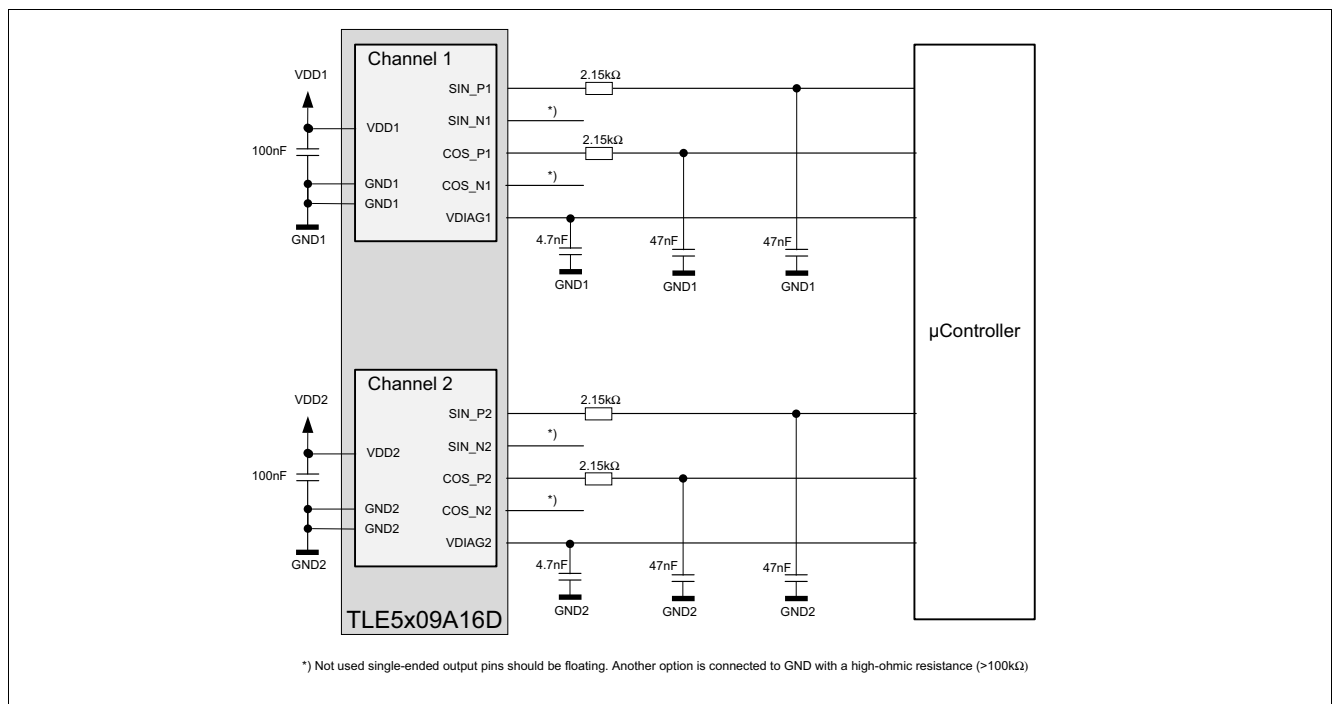
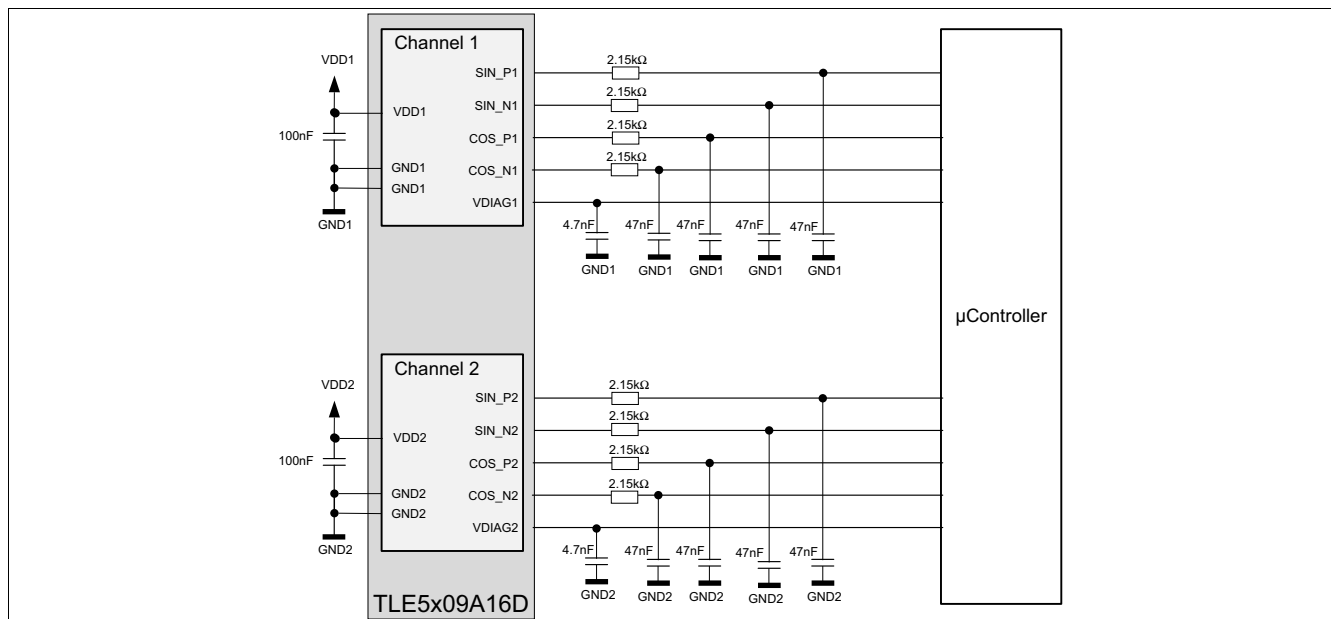

Figure 11 Application circuit for the TLE5x09A16(D) in single-ended output mode; positive output channels used
Figure 12 Application circuit for the TLE5x09A16(D) in differential output mode
The TLE5x09A16(D) sensor can be used in single-ended or differential output mode. **Figure 11** shows a typical application circuit for the TLE5x09A16(D) in single-ended output mode using the positive output channels. For single-ended operation the positive or negative output channels can be used. Unused single-ended output pins should preferably be floating or connected to GND with a high-ohmic resistance (> 100 kΩ). The TLE5x09A16(D) has separate supply pins for the GMR sensor and the AMR sensor. The microcontroller comprises up to 10 A/D inputs used to receive the sensor output signals in differential output mode, illustrated in **Figure 12**. For reasons of EMC and output filtering, the following RC low pass arrangement is recommended. The RC low pass has to be adapted according to the applied rotation speed. ¹⁾